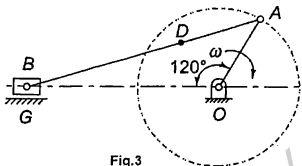

Fig.3
19. Fig. 3, show the configuration of an engine mechanism. The dimensions are as follows : $OA = 200$ mm, $AB = 600$ mm. At the instant shown, the crank, OA has an angular velocity of 50 rad/s CW and an angular acceleration of 800 rad/s². Find the acceleration of the slider, B and the angular acceleration of the link, AB .